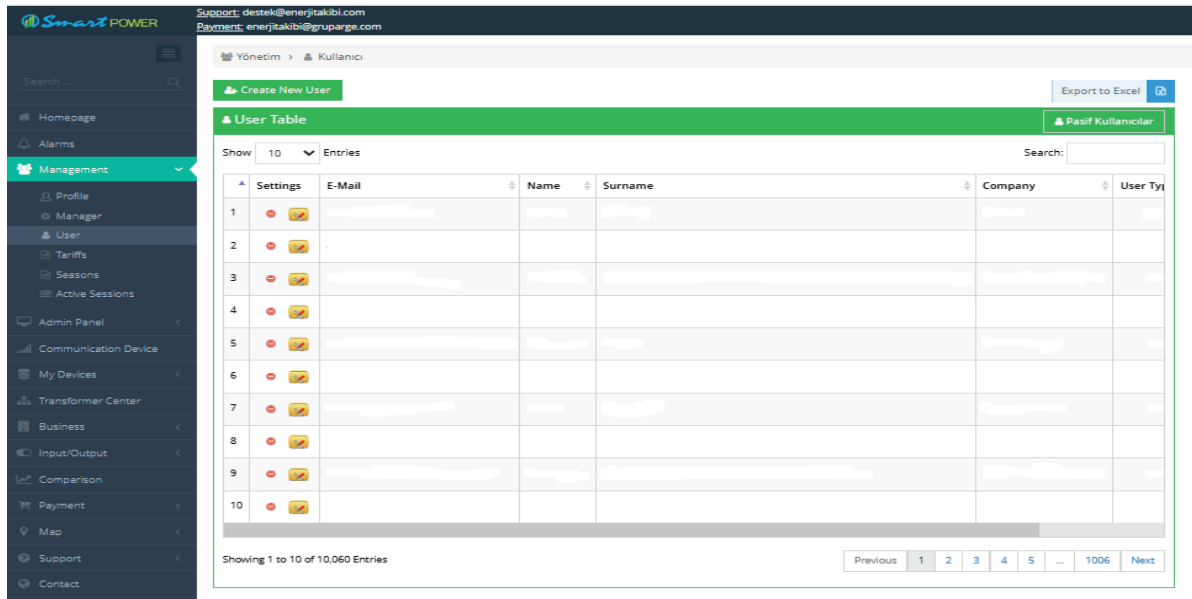

Figure6.8
10. To create a new user, go to “Administration” → “User” → “Create New User”, fill in the required user information, and create a sub-user account. (Figure 6.8)